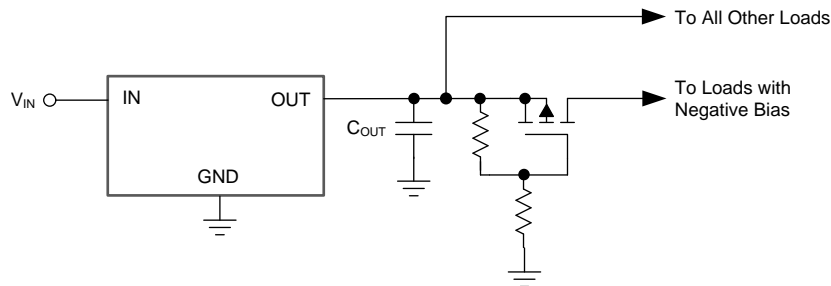

Figure 50. PFET to Isolate the Output from the Load
- Use a PFET to isolate the output of the device from the load causing the negative bias when the device is off, as shown in Figure 50.